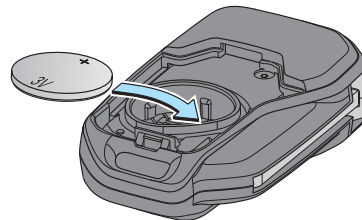

Fig. 15
- Insert a new battery from the side of the key fob as shown in the figure and ensure its proper seating (ref. Fig. 15).